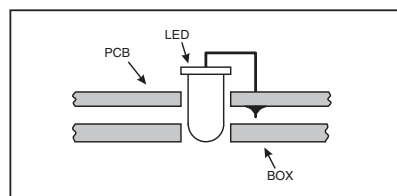

Fig.3. Suggested method of mounting the l.e.d. (D1).
The l.e.d. is mounted on the component side but is bent back on itself to cause it to shine through the board as shown in Fig.3. To do this, the leads of the device should be carefully bent prior to it being soldered to the board. The leads should be held firmly in a pair of pliers and repeated bending should be avoided.
The telescope is moved by electric motors geared to the spindles at the top of each tower and drive units that carry the structure on the railway track. These are mains-powered motors of various kinds. The telescope's main computer automatically controls the action of these motors. The computer generates a pair of digital waveforms, one of which (A in Fig.3) is a precise square wave at 1kHz, and the other (B) has the same frequency but a variable mark-space ratio.
Fig.3. Motor speed is controlled by subtracting a constant square-wave signal (A) from a digital signal of variable mark-space ratio (B). (a) a 50% mark-space ratio produces 0V output, (b) a mark-space ratio greater than 50% produces positive output pulses, (c) a mark-space ratio of less than 50% produces negative output pulses.